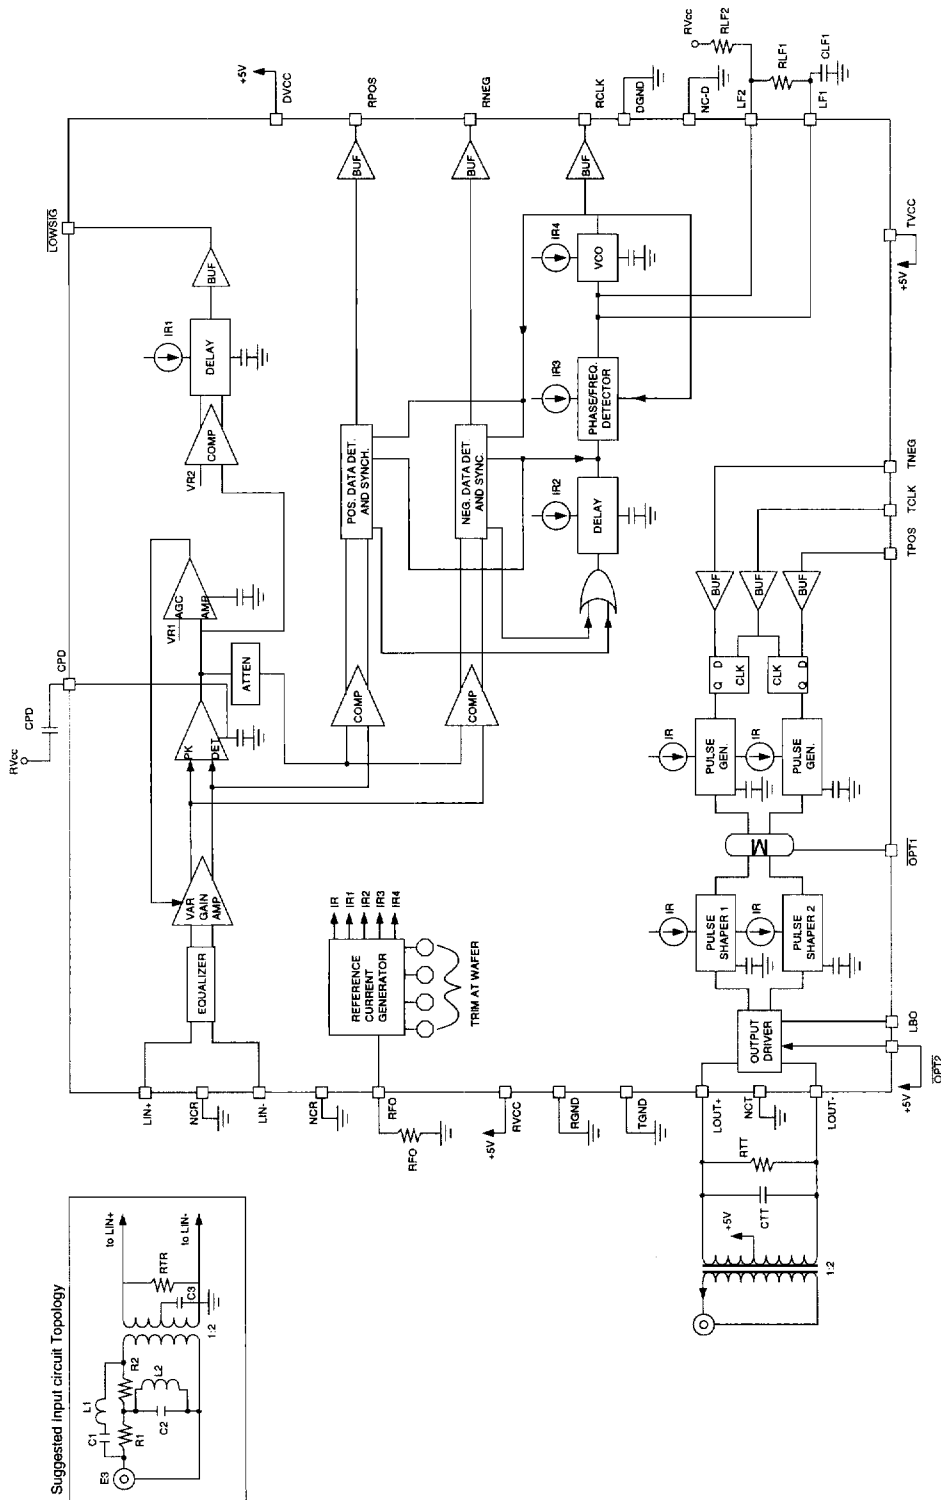

FIGURE 1: Functional Diagram
The AMI signal first enters a fixed equalizer which is designed to overcome the intersymbol interference caused by long cable lengths and crosstalk. This fixed equalizer is optimized for DS-3 application and its effect should be compensated by an external filter circuit similar to Fig. 1, for all square shaped signals such as DS3-high or 34 Mbit/s E3. For all new designs, the addition of the filter for DS3 and STS-1 as well as E3 rate allows the circuit to work with sharp pulses such as DS3-high. The signal is then input to a variable gain differential amplifier whose output is maintained at a constant voltage level regardless of the input voltage level. The gain of this amplifier is adjusted by detecting the peak of the signal and comparing it to a fixed reference.
- The input signal is transformer coupled as shown in Figure 1.